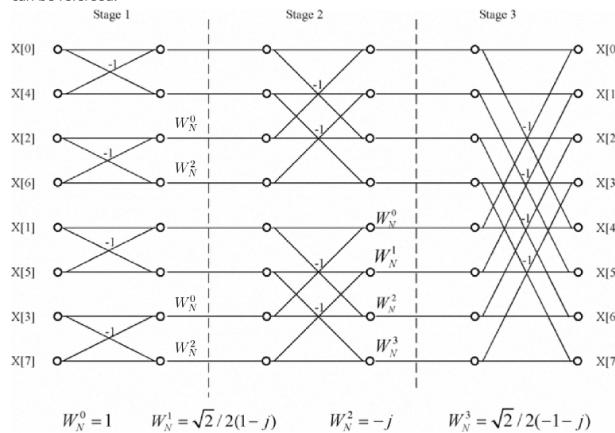

Fig. 1: Signal Flow Diagram for 8-Point DIT Based FFT
- A. Butter Fly Sub-Blocks:** In the signal flow diagram in Fig. 1, the basic butterfly block does two type of basic operations, viz., addition and subtraction. Thus we have designed a basic Butter Block 1 (BF1) which performs addition and subtraction. The Butter Fly block 2 (BF2) is actually an optimized version of two BF1 blocks which either zero real or imaginary part.